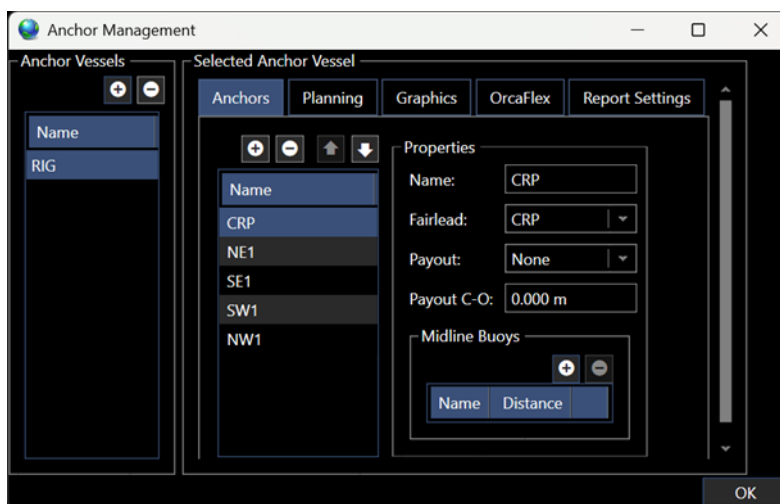

FIGURE 7 ANCHOR MANAGEMENT – ANCHORS
3. Select Anchor Vessel to be configured, see Figure 7.